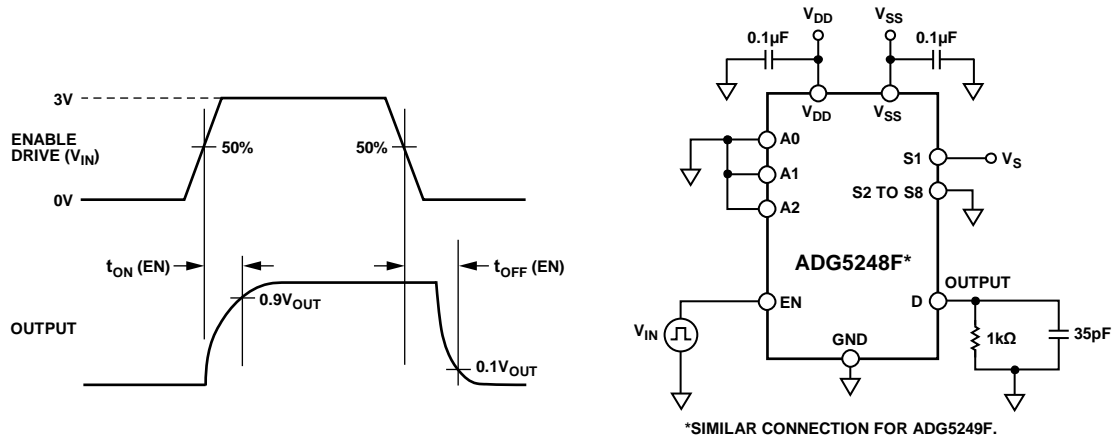

Figure 49. Enable Delay, $t_{ON}(EN)$, $t_{OFF}(EN)$
t_{ON} (EN) represents the delay between applying the digital control input and the output switching on (see Figure 49).
t_{OFF} (EN) represents the delay between applying the digital control input and the output switching off (see Figure 49).